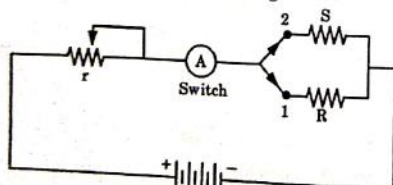

Fig. 2.4.1.
1. The connection diagram is shown in Fig. 2.4.1.